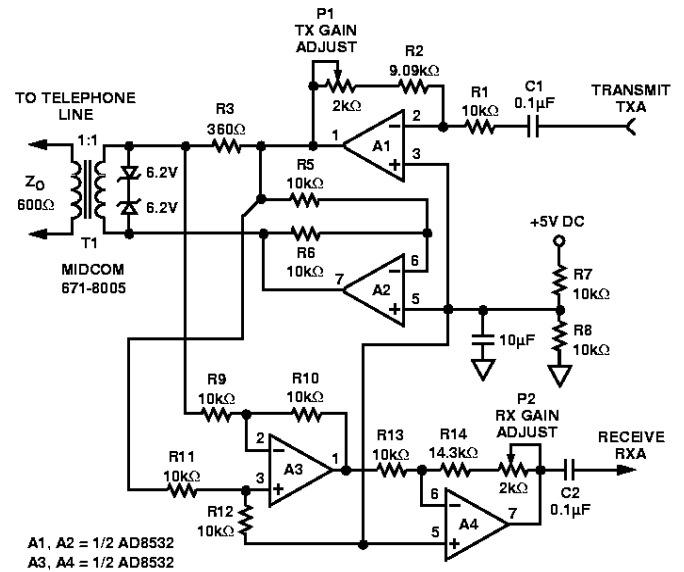

Figure 42. A Single-Supply Direct Access Arrangement for Modems
Figure 42 illustrates a +5 V only transmit/receive telephone line interface for 600 Ω transmission systems. It allows full duplex transmission of signals on a transformer coupled 600 Ω line in a differential manner. Amplifier A1 provides gain that can be adjusted to meet the modem output drive requirements. Both A1 and A2 are configured to apply the largest possible signal on a single supply to the transformer. Because of the high output current drive and low dropout voltage of the AD8531/AD8532/AD8534s, the largest signal available on a single +5 V supply is approximately 4.5 V p-p into a 600 Ω transmission system. Amplifier A3 is configured as a difference amplifier for two reasons: (1) It prevents the transmit signal from interfering with the receive signal and (2) it extracts the receive signal from the transmission line for amplification by A4. A4's gain can be adjusted in the same manner as A1's to meet the modem's input signal requirements. Standard resistor values permit the use of SIP (Single In-line Package) format resistor arrays. Couple this with the AD8531/AD8532/AD8534's 8-pin SO IC or TSSOP footprint and this circuit offers a compact, cost-sensitive solution.